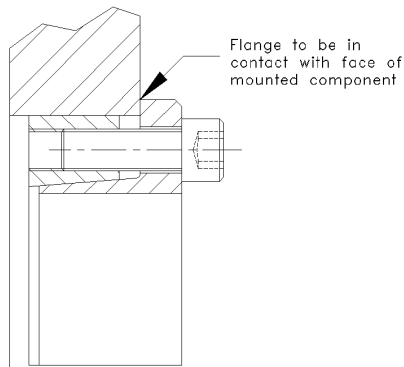

Figure 1
3. Insert CLIMAX Series C193 into component bore, then transfer screws used to separate collars back to their original position. Note that the flange must be in contact with the face of the mounted component (see Figure 1).